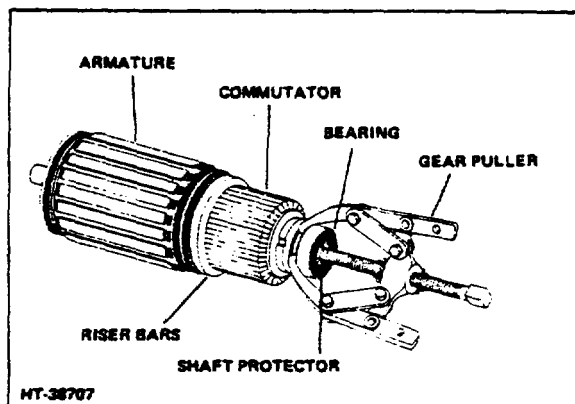

Figure 3-1. Bearing Removal (450A3)
6. When bearings are worn or damaged, replace them (Fig 3-1).